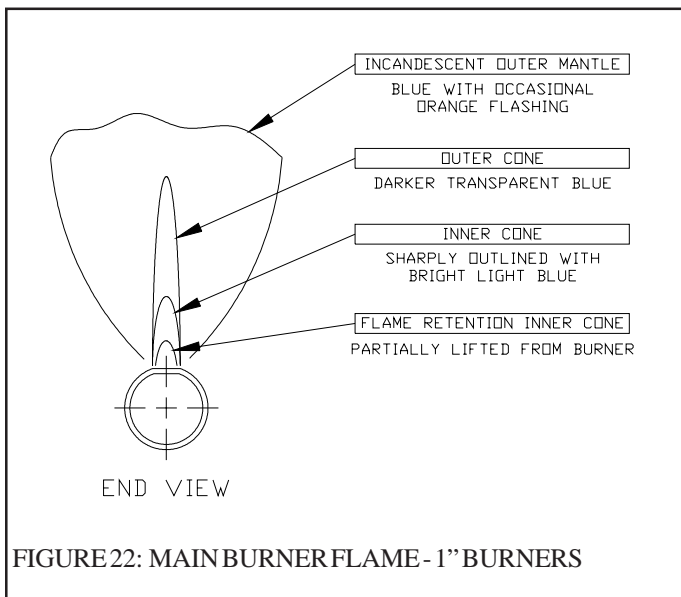

FIGURE 22: MAIN BURNER FLAME - 1" BURNERS
- 11) Inspect the main burner flames visible through the observation port in burner access panel. The flame should be stable and mostly blue (see Figure 22 or 23). No yellow tipping should be present; however, intermittent flecks of yellow and orange in the flame are normal.